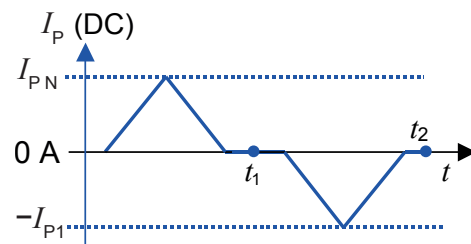

Figure 27: Current cycle used to measure magnetic and electrical offset (transducer supplied)
- Completely demagnetized, which is difficult to realize, or in a known magnetization state, like in the current cycle shown in figure 27.
Using the current cycle shown in figure 27, the electrical offset is: